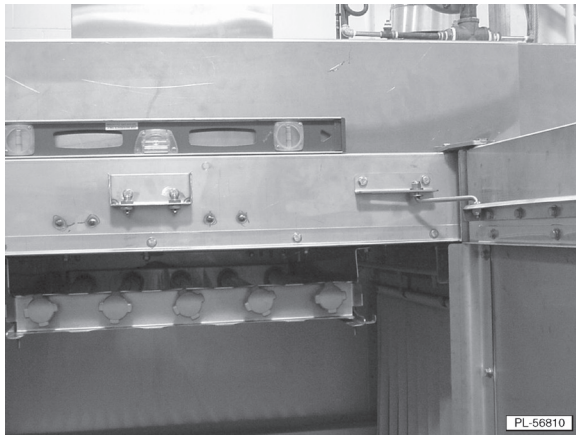

Fig. 6
- Level the center section along its length by opening the doors and placing the level between the doors along the tank support rail (Fig. 5) or on top of the chamber front (Fig. 6). Do not check level on top of doors. Adjust the feet in or out as required to level.